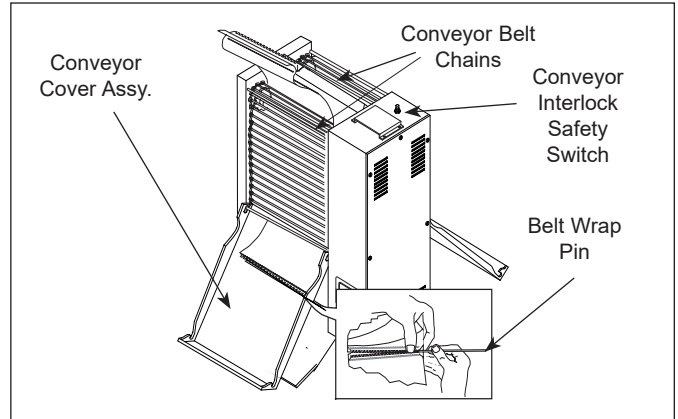

**Figure 7. Folding Release Sheet**
2. Lay a new Release Sheet on a clean, dry surface and fold it in half lengthwise and gently crease it at the fold using only your fingers (Figure 7).